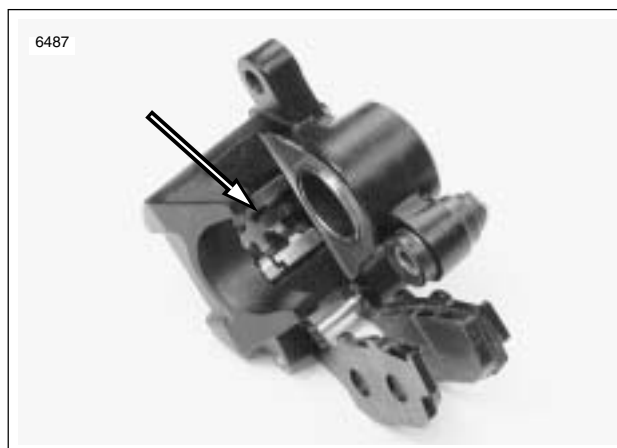

Figure 1-17. Pad Spring, Rear Brake
2. See Figure 1-17. Check that pad spring is present. Should pad spring become dislodged, install with widest area of spring towards piston side of caliper.